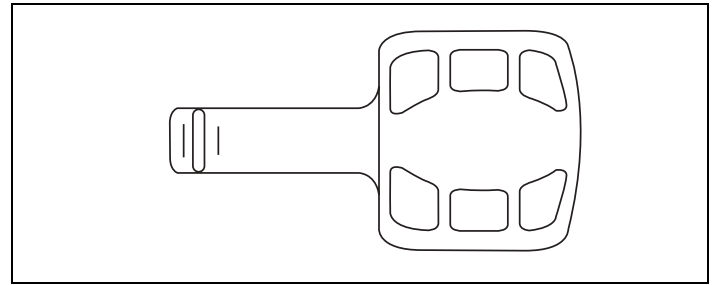

Figure 10. Ignition Key
1. Be sure ignition switch on engine or equipment is in "ON", "RUN" or "START" position. See Figures 10, 11 and 12.
Insert ignition key, if present (see equipment manufacturer's instructions) into ignition key slot in carburetor cover. DO NOT turn ignition key. Be sure ignition key snaps into place. See Figures 10 and 11.